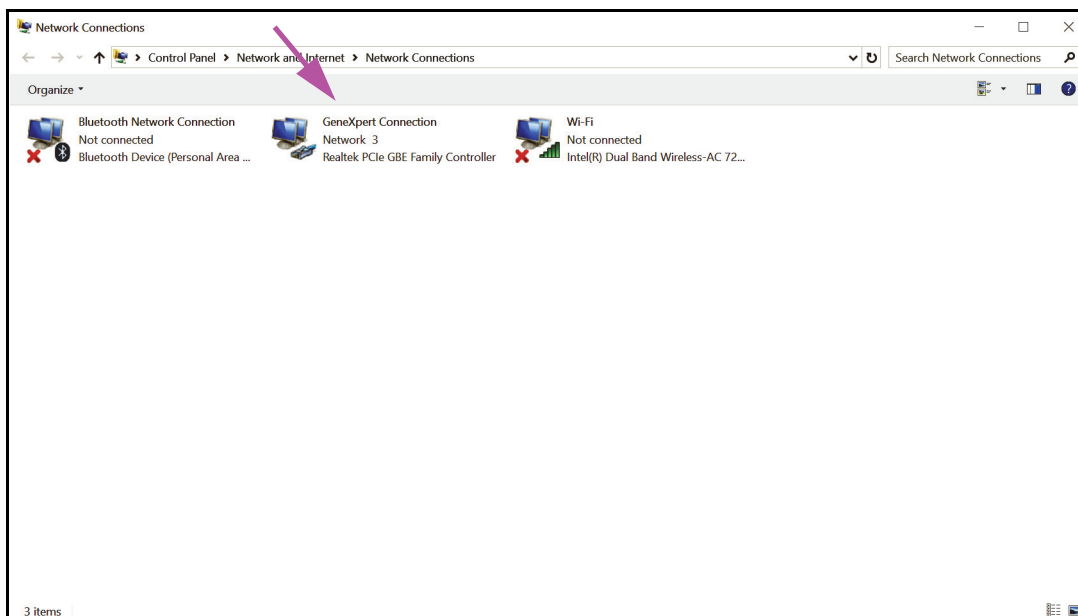

Figure 2-17. Network Connections Screen
5. Click **Change adapter settings**. The Network Connections screen appears. See Figure 2-17.